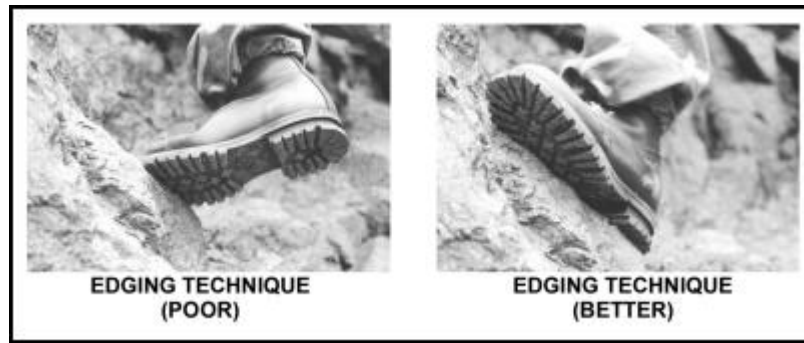

Figure 6-5. Examples of edging technique.
(2) **Edging.** The edging technique is used where horizontal crack systems and other irregularities in the rock form small, well-defined ledges. The edge of the boot sole is placed on the ledge for the foothold. Usually, the inside edge of the boot or the edge area around the toes is used. Whenever possible, turn the foot sideways and use the entire inside edge of the boot. Again, more sole contact equals more friction and the legs can rest more when the heel is on the rock. (Figure 6-5 shows examples of the edging technique.)